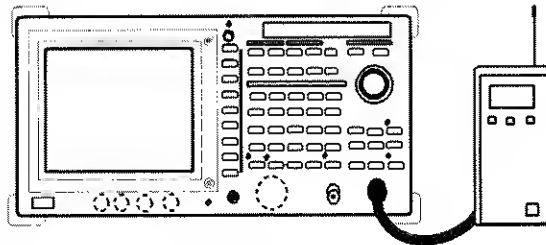

Figure 2-85 Setup for Measuring the Total Power
1. Connect the unit as shown in Figure 2-85.